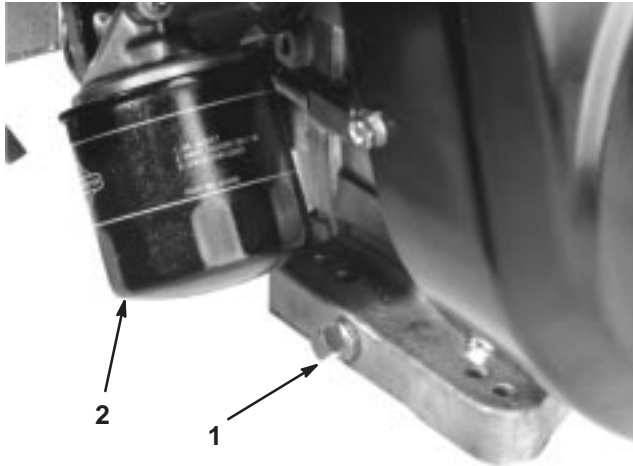

Figure 34
1. Remove the drain plug (Fig. 34) and let oil flow into a drain pan. When the oil stops, install the drain plug.
2. Remove the oil filter (Fig. 34). Apply a light coat of clean oil to the new filter gasket.